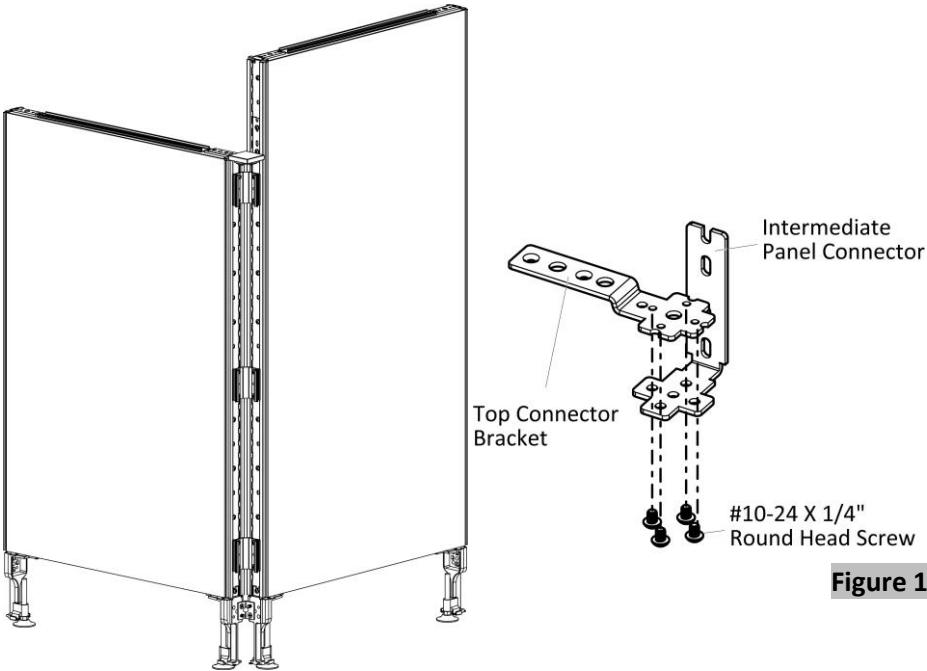

Figure 1
- 1. Securely fasten the intermediate panel connector to the top connector bracket with four #10-24 X 1/4" Round Head Screws, (Figure 1).